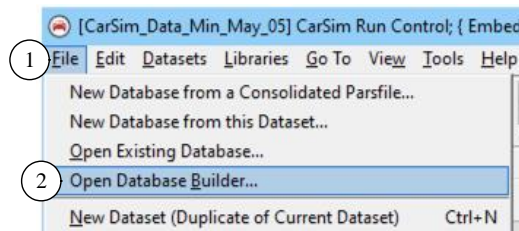

Figure 3. Use the File menu command Open Database Builder.
You can access the Database Builder any time after the initial installation of CarSim. It can be viewed whenever the **Select Recent Database** window appears. The Database Builder can also be brought up directly from within CarSim using the **File** menu ① command **Open Database Builder** ② (Figure 3).